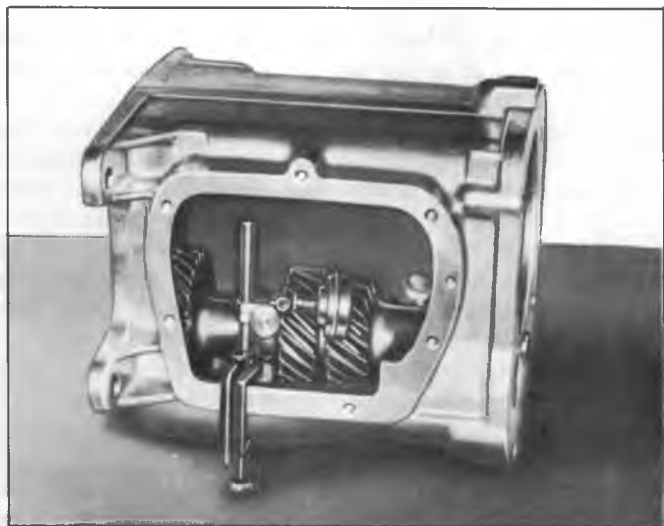

Fig. 17B—Checking Countergear End Play
6. Attach a dial indicator (fig. 17B) and check end plate of the countergear. If end play is greater than .025" new thrust washers must be installed.